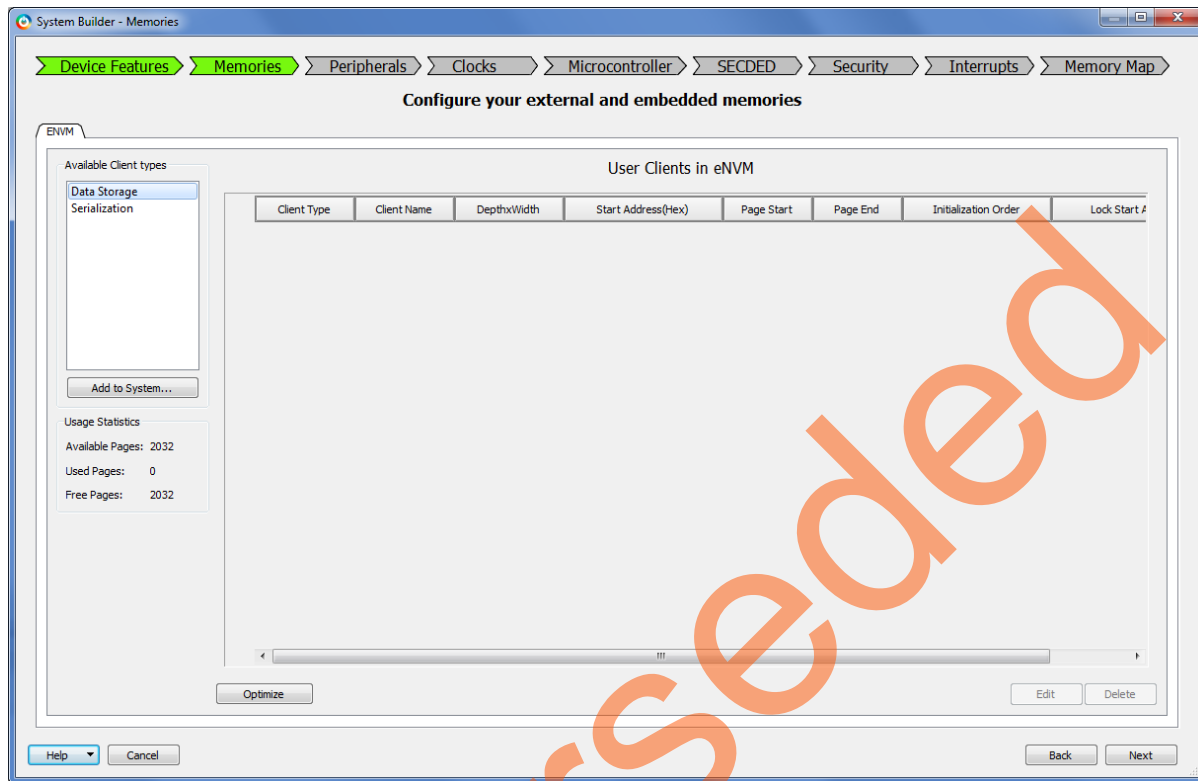

Figure 1 • Adding the Client Type
3. Select **Data Storage** under **Available client types** and click **Add to System**, as shown in Figure 1.